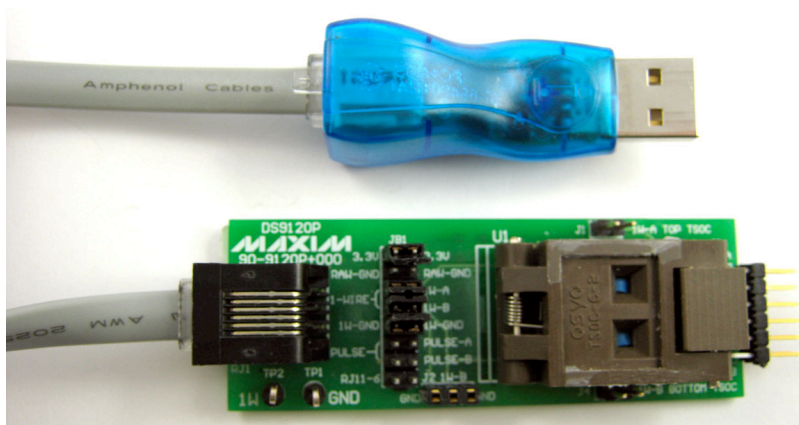

Figure 6. DS9120P+ to DS9490R#
- 4) Connect the DS9120P+ to the DS9490R# with the supplied RJ11-to-RJ11 cable. One end of the cable should be plugged into the DS9120P+ board and the other end into the DS9490R#. See Figure 6.